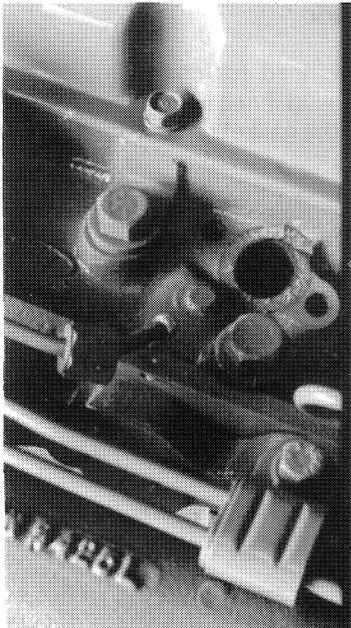

Figure 3
11. Disconnect the injector leak-off line. Remove the two nuts from the studs that retain each injector, Figure 3, and remove each injector from its bore in the cylinder head. Be sure the area surrounding the injectors is clean. If the injectors can not be readily pulled by hand, it may be necessary to pry the injectors out.